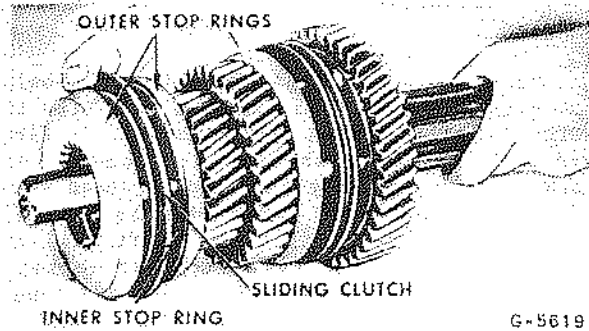

Fig. 19 - Removing Front Synchronizer Assembly
Slide front (4th and 5th speed) synchronizer assembly off mainshaft (17) as shown in Fig. 19.